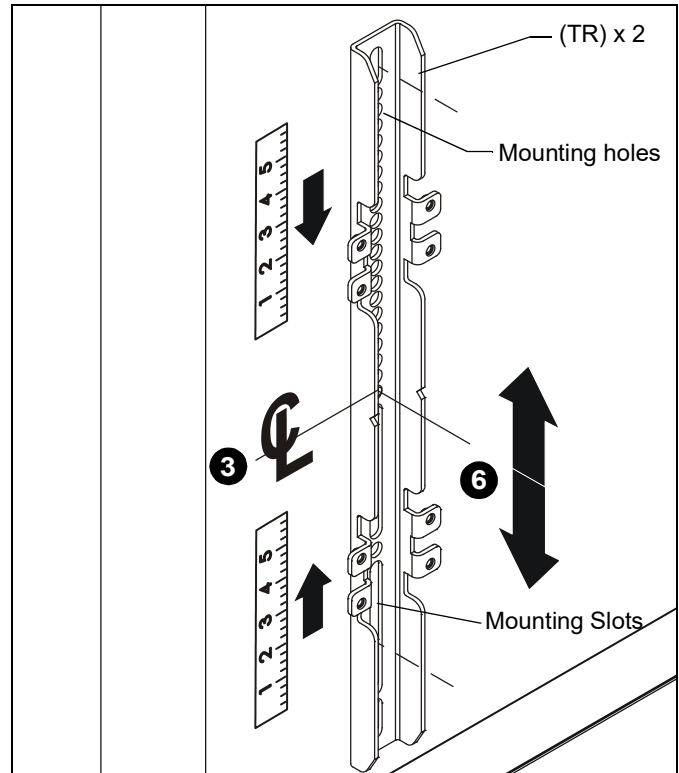
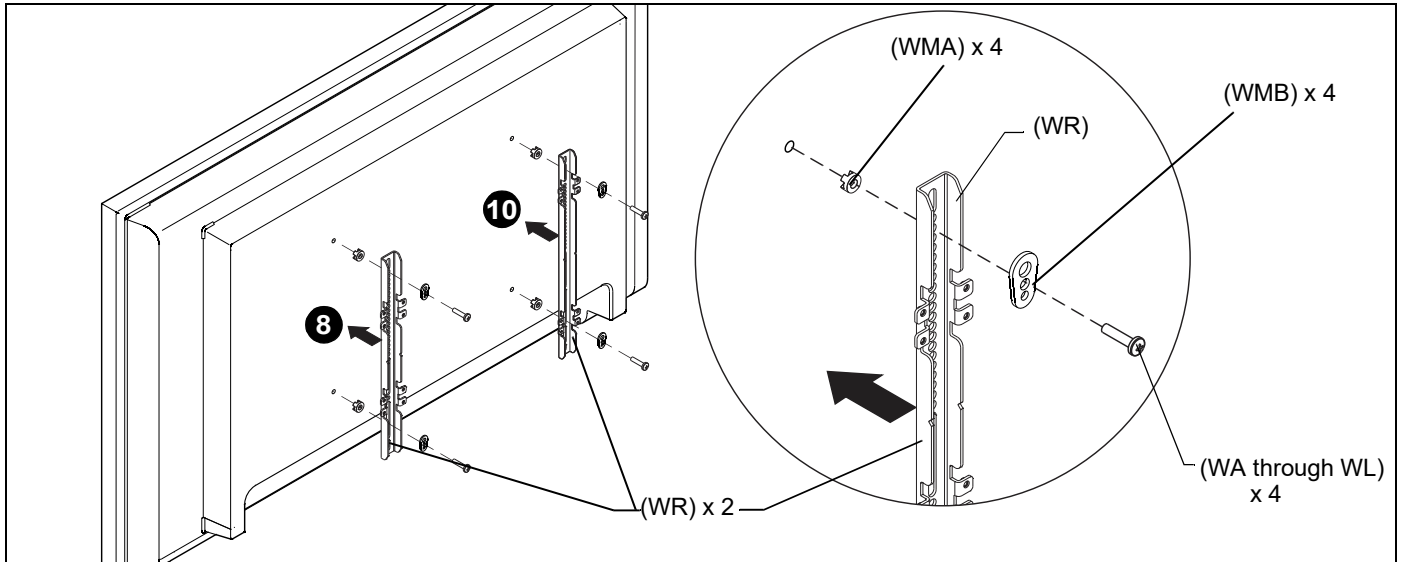

Figure 28
Figure 30
- Determine and mark the vertical center position between the Left side Upper and Lower mounting holes in display. (See Figure 28)
- Determine and mark the vertical center position between the Right side Upper and Lower mounting holes in display. (See Figure 28)
- Orient vertical mounting bracket (WR) so that mounting holes are on top and mounting slots are on bottom. (See Figure 28)
- Align mounting holes in vertical mounting bracket (WR) with upper and lower mounting holes in display.
- Adjust vertical mounting bracket (WR) position until mark made in Step 1 aligns with center mark in vertical mounting bracket (WR).
- Select correct screws, nesting spacers (if necessary) and universal washers (if required) from the hardware bag (WAWM) and attach brackets to back of screen. (See Figure 30)
9. If the display has a recessed mounting surface, protrusions or a power box, a spacer and longer mounting hardware must be placed between the display and vertical mounting bracket (WR). (See Figure 30)